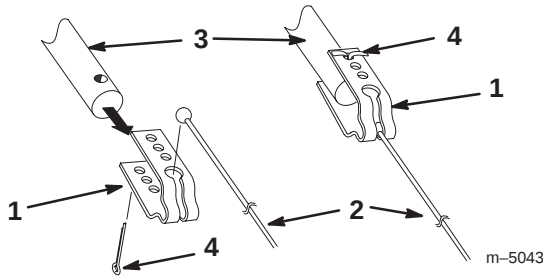

Figure 16
12. Attach the cable bracket to the angle pin at the blade assembly (Fig. 16) with a cotter pin (1-1/4 inch).